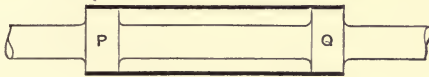

Fig. 3.
5. A steel shaft, 1 inch in diameter, is provided with enlarged portions  $P$  and  $Q$ ,  $1\frac{1}{2}$  inches in diameter. The shaft is held twisted by an axial torque of 40 feet-lbs. While in this condition a steel tube,  $\frac{1}{20}$ -inch thick, is shrunk on to the enlarged portion as shewn in Fig. 3. When the tube has firmly gripped the shaft the applied torque is removed. Calculate what twisting couple remains in the shaft, assuming that the shaft and tube are made of the same material.